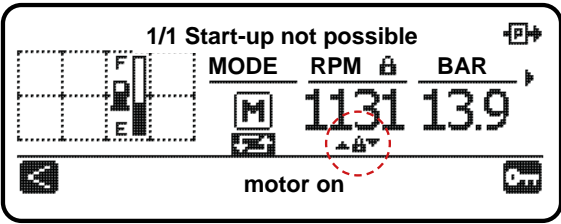

Fig. 38
- Use  to position the focus on the symbol as shown in (Fig. 38);